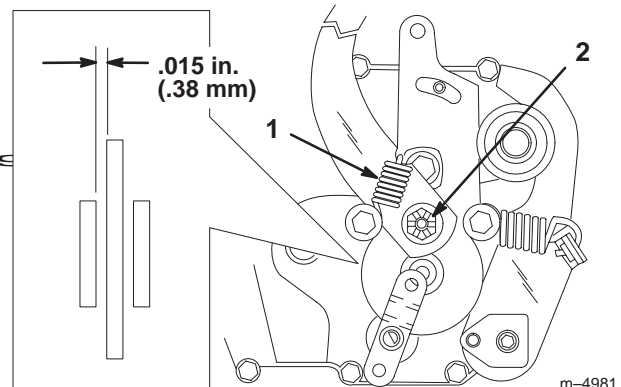

Figure 19
The brake is on the right side of the rear axle, inside the rear tire (Fig. 19). If the parking brake does not hold securely, an adjustment is required.
2. Remove the brake arm spring (Fig. 19).
3. Remove the cotter pin securing the brake adjusting nut and slightly loosen the nut (Fig. 19).
4. Insert a 0.015 in. (.38 mm) feeler gauge between the brake disc and brake puck (Fig. 19). Tighten the nut until slight resistance is felt on the feeler gauge when sliding it in and out.